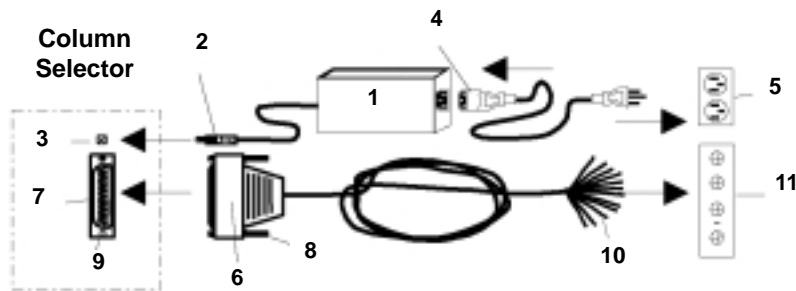

Fig. 3. Electrical and communications connections to Column Selector.
1. See Figure 3 for an illustration of the electrical connections.
1. All electrical and communications connections to the Column Selector are made in the rear of the unit (see Fig. 3):
- a) Plug the Power Supply (1) male-barrel terminal (2) into the Column Selector female port (3).
- b) Plug the IEC 320 connector (4) of the Power Line Cord into the Power Supply box (1).
- c) Plug the opposite end of the Power Line Cord into a properly grounded power source (5). The LabPRO *Universal Power Supply* can be operated from *inputs* of 100-240 VAC, 50-60 Hz. The *output* is 24VDC, 1.7A.
- (1) *Line control* using the interface cable with *contact closures* or *TTL* relays.
- (2) *Serial communication* using RS-232 or RS-485 cables and software.
- b) For *line control* use the supplied 25-pin *Interface Cable*. The Cable is plugged into the 25-pin terminal on the Column Selector. The loose wires on the opposite end of the Cable are wired to an appropriate *output* device on your instrument, such as an *External Event Relay* or a *Time Function Switch*. The *output* must be either *contact closure* or *TTL* in order to connect the Column Selector to your instrument (see **Caution - III A.1**). See Figure 3.
- (1) Plug the *Interface Cable* connector (6) into the 25-pin terminal (7) located on the rear of the Column Selector. Tighten the connector screws (8) into their mating terminal ports (9).
- (2) Connect the color coded *Interface Cable* wires (10) to the HPLC controller *contact closures* or *TTL* relay (11), as described in more detail in the next section “Input Line Control.”
- c) For *serial communication* the *interface cable* is replaced with RS-232 (P/N 5123-067) or RS-485 cable. The serial cable is connected between the 25-pin terminal on the Column Selector and the appropriate *output* on your computer. See Figure 3.
- (1) Plug the RS-232 or RS-485 *interface cable* connector (6) into the 25-pin terminal (7) located on the rear of the Column Selector. Tighten the connector screws (8) into their mating terminal ports (9).
- (2) Connect the opposite end of the RS-232 or RS-485 *interface cable* (not shown) into the HPLC controller computer port, as described in more detail in the next section.
- (3) The last two digits (-01, -02, -03) of the Column Selector part number specify the different *inputs* that can be used for remote control. See Table 1 for complete details on *inputs* and *outputs* for different Column Selector part numbers.